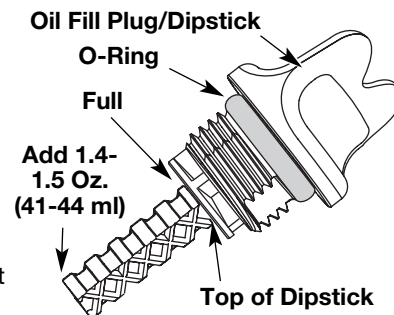

Fig. 28
5. Remove the oil fill plug/dipstick and check the oil level. Oil should be up to the top of the dipstick (Fig. 28).